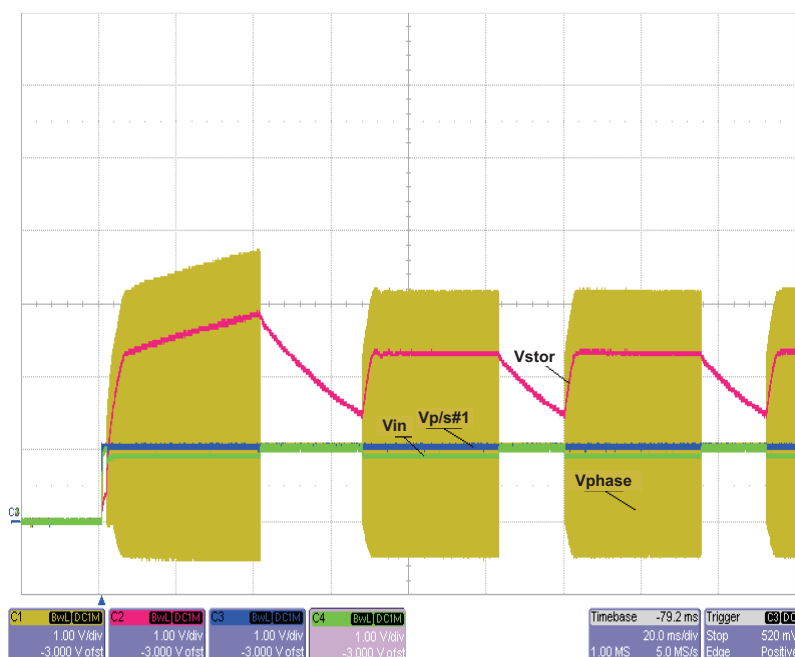

Figure 3. Startup with Battery Less Than UV
2. Set PS#1 to 1VDC and hot plug to input with 20 Ω series resistor, see Figure 3.